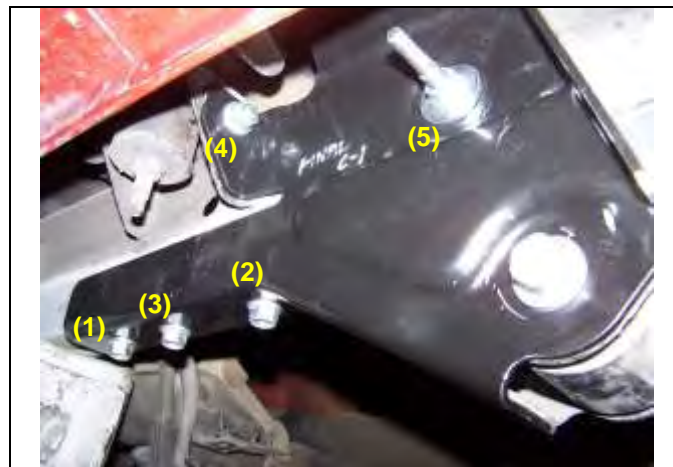

Figure 35
21. Torque bolts in the sequence and to the specifications shown in Figure 35.